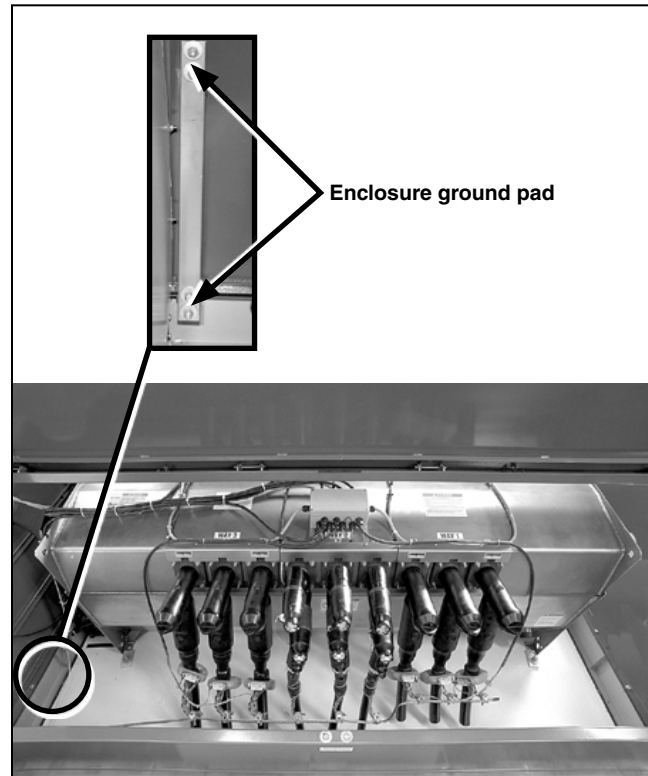
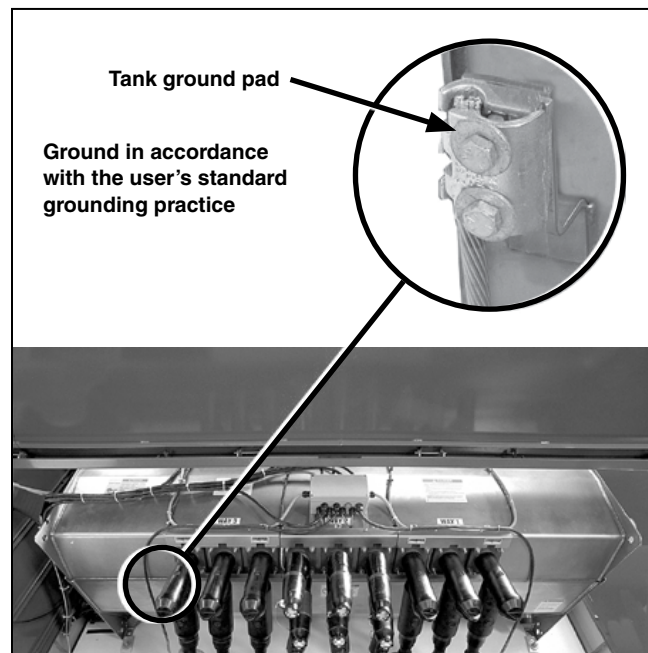
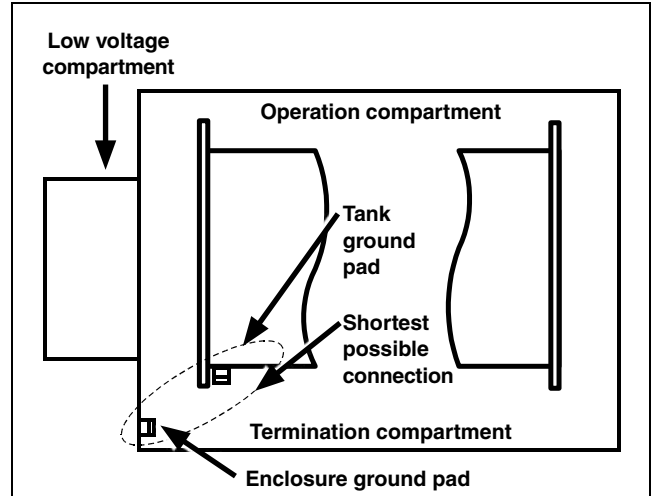

Figure 17. The pad-mounted enclosure ground pad orientation.
Figure 18. Use of the pad-mounted enclosure ground pad.
Figure 19. The tank and enclosure ground pads.
- STEP 2.** Connect the ground pad of the tank and the ground pad inside the enclosure to the system ground facility in accordance with the user's standard grounding practice. Connect with the shortest possible connection. See Figure 17, Figure 18, and Figure 19 on page 17.